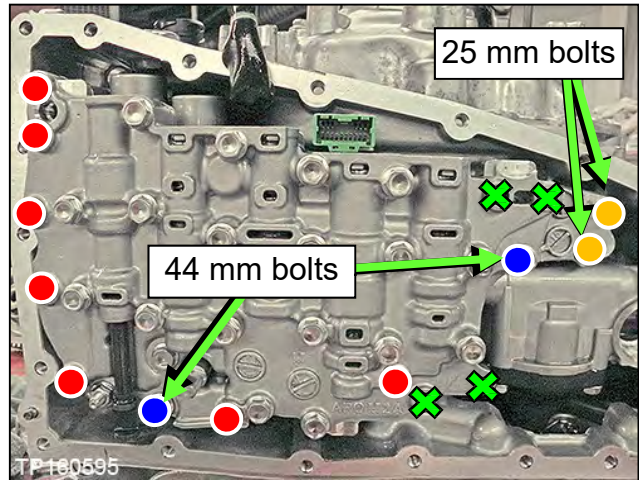

Figure 163
120. Install the Control Valve with eleven (11) mounting bolts (Figure 163).